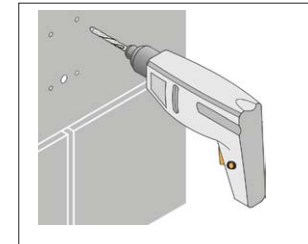

Fig. 3
- 3 - Drill the mounting holes. (Hole diam: 3/16") (Fig. 3);